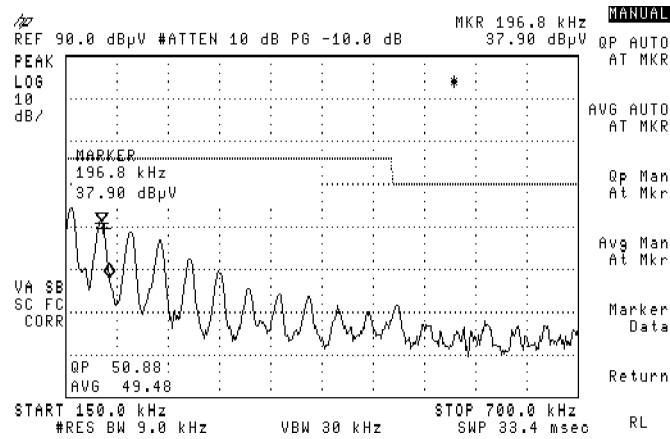

Figure 3-37. Display Showing QP and Average Data
39. Press **AVG AUTO AT MKR**. Notice that the plus symbol (+) is used by average detection. See Figure 3-37.